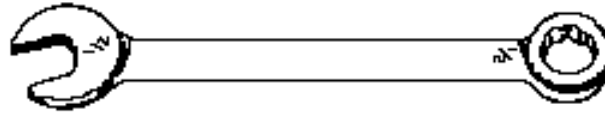

Figure 15, Combination Open-End and Box-End Wrench
- Combination Open End, Box End Wrench.** The combination open end, box-end wrench has an open end at one end and a box end at the other end. Both ends will be the same size (See Figure 15).